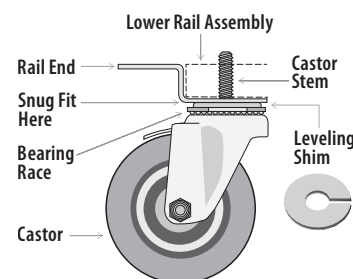

Fig. 7. Castor diagram.
3. Thread the castors into the frame rail or appliance bottom. See figs. 7 and 8.